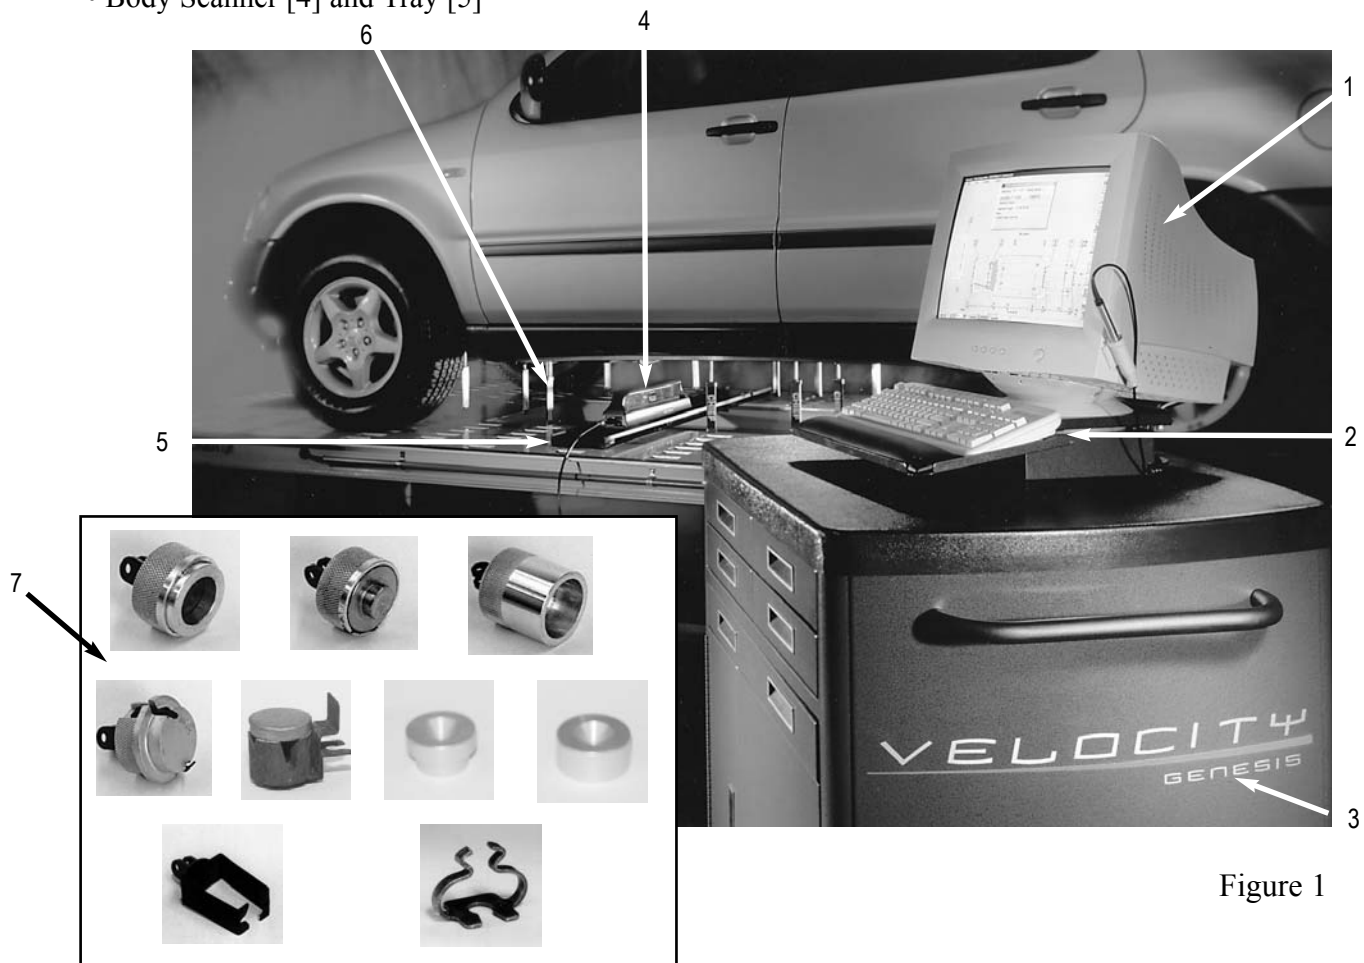

Figure 1
Equipment in Chief's Velocity Computerized Measuring System (see Figure 1) is easy to use and provides accurate readings. Its basic components include:
- (*Not shown in Figure 1 — see following pages)